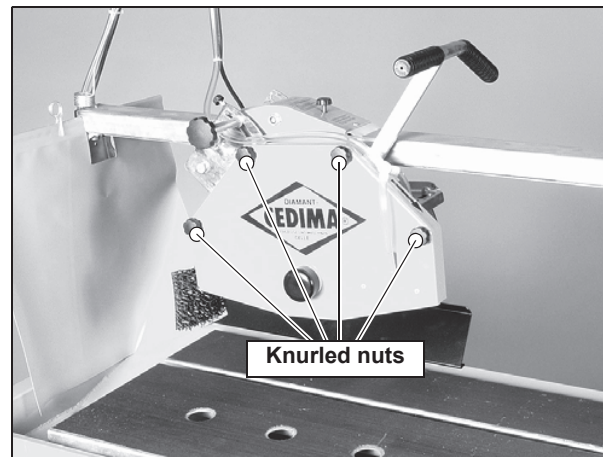

Fig. 3.10 Knurled nuts securing the blade guard
1. Loosen the knurled nuts (fig. 3.10) securing the blade guard and remove the guard.